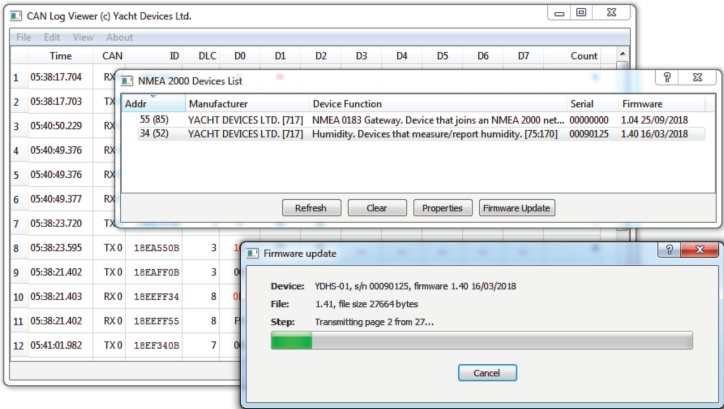

Figure 1. Firmware update of Humidity Sensor
2. Click the «Refresh» button (see Figure 1 at the next page) in the opened window and wait for the Device to appear in the list.